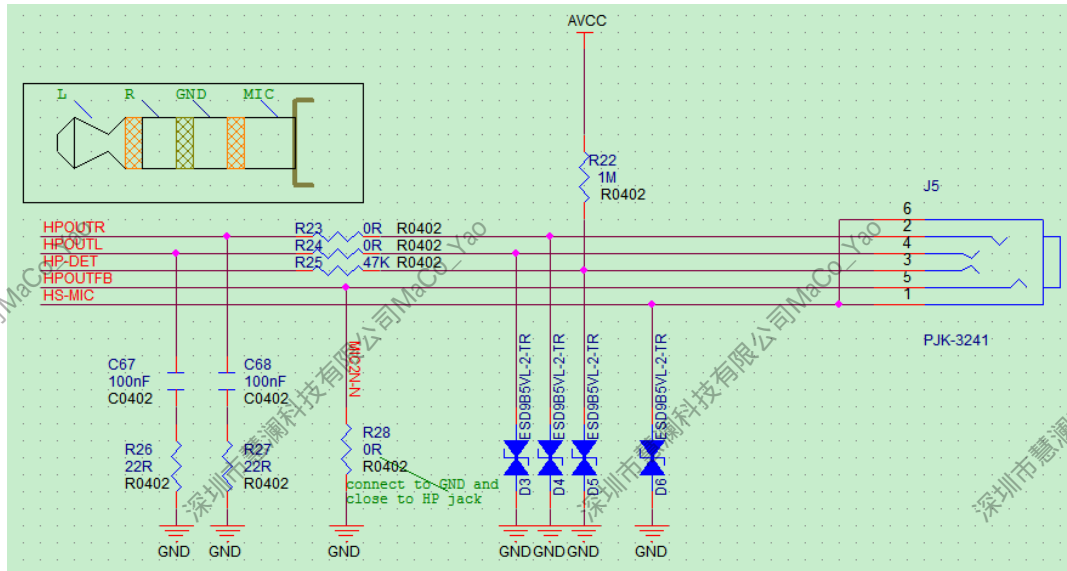

Figure 2-39 Headphone Interface Circuit Design
- Must reserve the RC circuit of headphone output, such as C67/R26, C68/R27 shown in Figure 2-43. The grounded resistor of HPOUTFB is close to the headphone socket, and the trace between the headphone socket and the grounded resistor R28 must be at least 15 mil. Refer to the ground of the headphone socket for the MIC2N-N network. As shown in Figure 2-39.
- The headphone detection is to detect the high and low state of HP-DET level. If the headphone is inserted, and the 3 and 4 pins are shorted, the resistor R84 NC is not mounted; If the headphone is removed, and the 3 and 4 pins are disconnected, the resistor R84 is mounted at 100K, as shown in Figure 2-39. The effective levels detected by different headphones need to be modified in the sys_config configuration file.